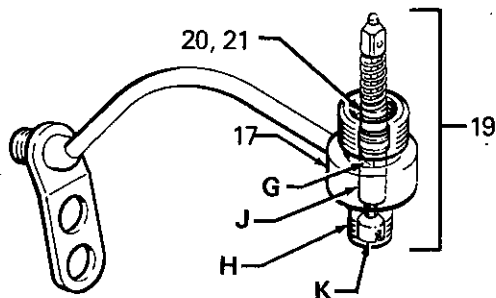

Fig 3
To reassemble, lubricate the packings (20) and o-ring (21) of the needle assembly (19) with lightweight oil and pull the needle through the fluid housing from the rear (H) until the trigger flats (G) are exposed. See Fig 3.
Then, with the trigger safety (15) engaged, and the trigger held against the safety, turn the adjusting screw (K) counterclockwise until the needle guide (J) just touches the trigger, then back off 1/4 to 1/2 turn. See Figs 3 & 4. Install the plug (4) and tip (A).